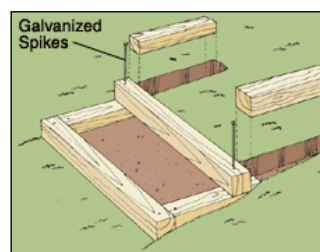

Figure 5
**STEP 8.** To build the next step, measure from the front of the first riser timber and mark the step depth on the side timbers with a pencil. Align the front of the second step riser timber with the pencil lines on the side timbers of the step below. Secure the riser timber to the side timbers using 12" galvanized spikes (figure 5).
**STEP 9.** Excavate for the side timbers and set the side timbers. Anchor the side timbers by driving the steel rebar through the drilled holes on the end of each timber into the ground (figure 5).